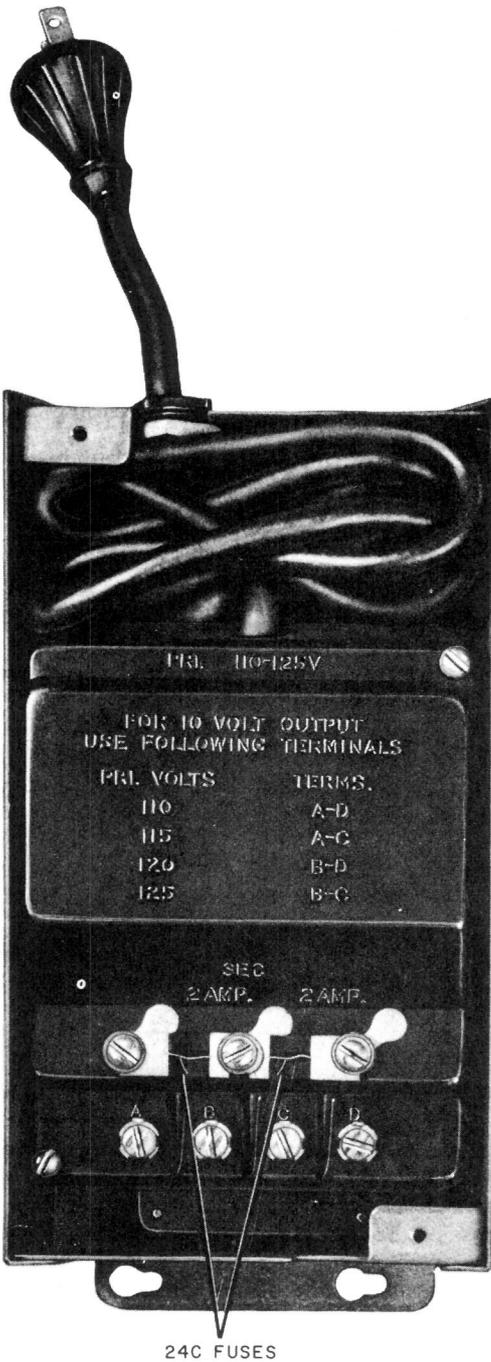

Fig. 1—393B Transformer, Cover Removed
2.01 The 393B transformer (Fig. 1) is used primarily as a power supply for 10-volt lamps in 1A, 1A1, and 1A2 key telephone systems. It is furnished in a metal box with a removable cover. The box is approximately 8-3/4 inches long, 4-1/4 inches high, and 4 inches deep.
*the nonmetallic sides of the fuses are together on the center post (Fig. 1).*